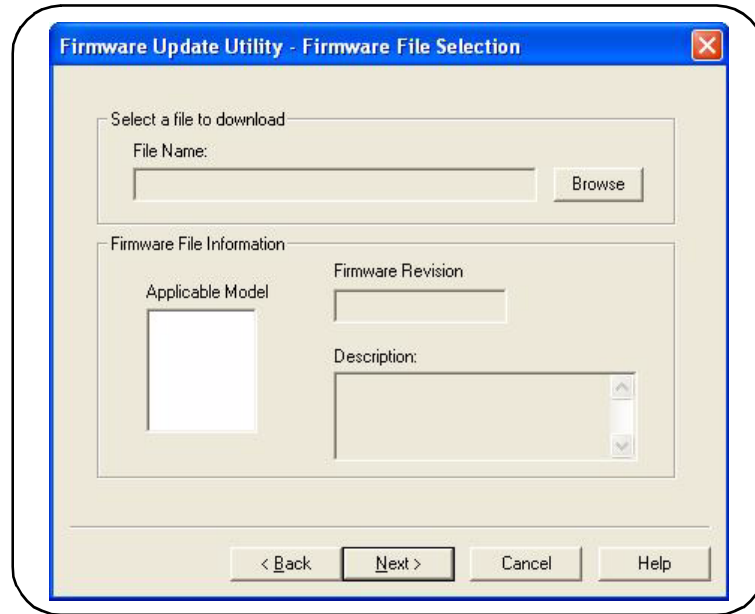

Figure 3-8. Firmware Update Utility File Selection Window.
1. From the installation directory or ‘start’ menu, start the utility and select ‘Next’ until the window shown in Figure 3-8 appears.